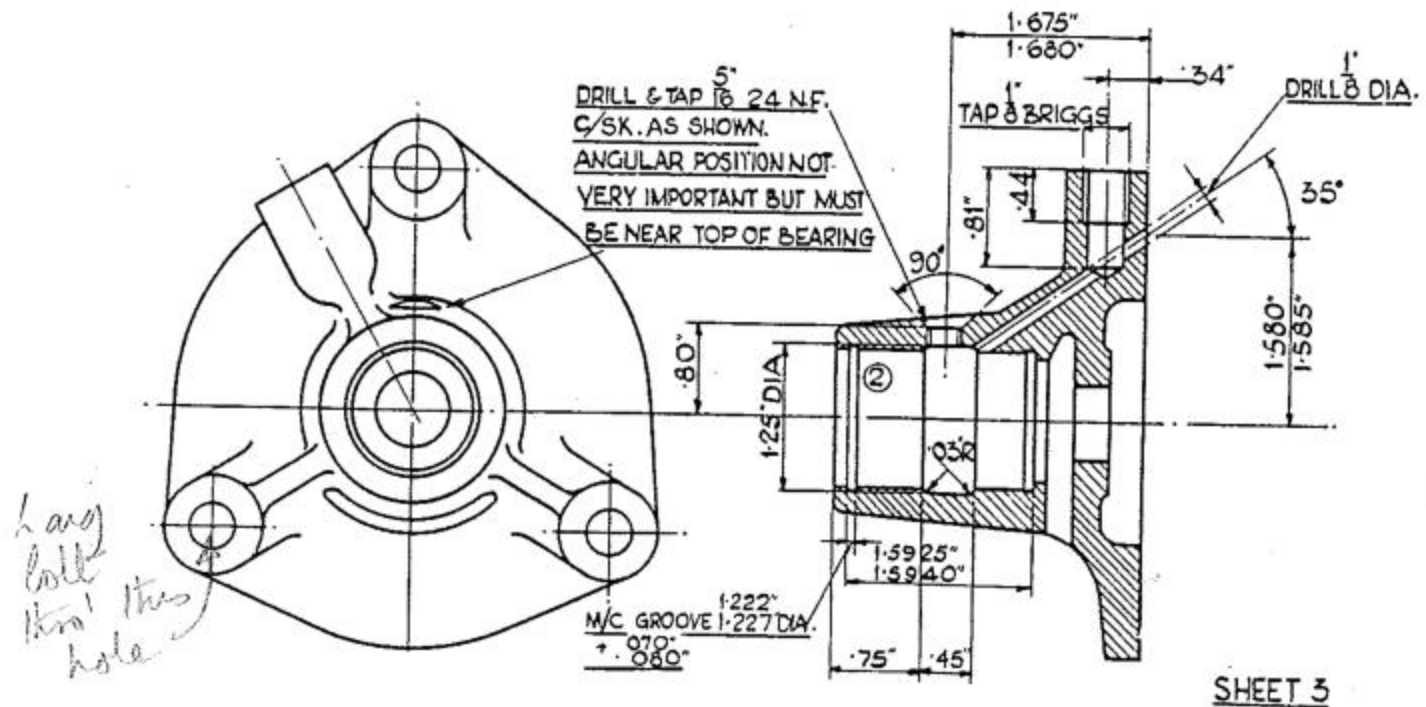

Fig. 6. Service mod. to water pump bearing housing Standard and Triumph 2-litre model
4. Drill, countersink, tap, turn undercut and circlip groove (if necessary). For dimensions and details see Fig. 6.